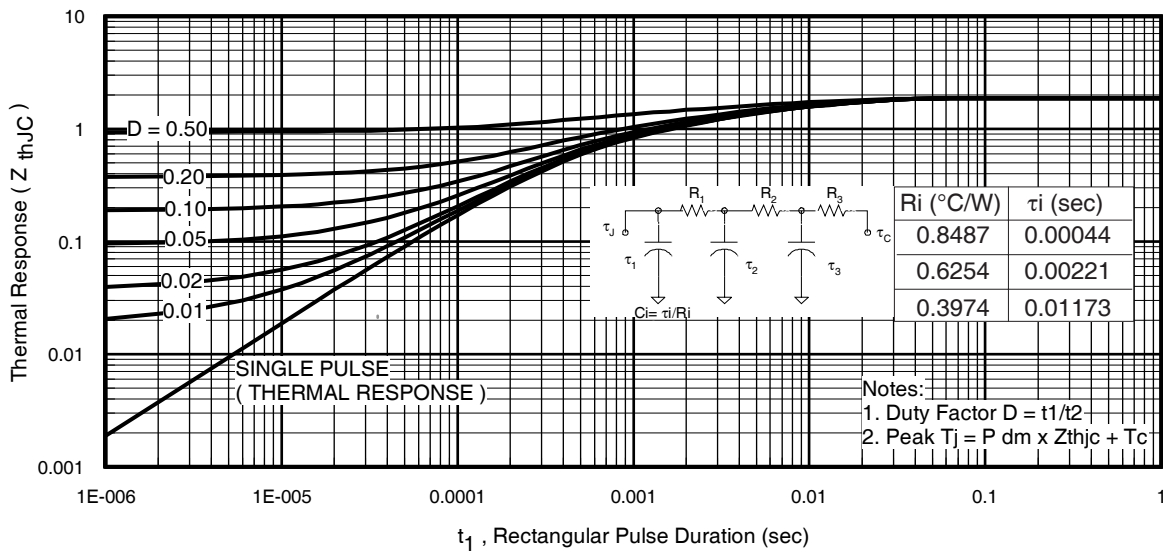
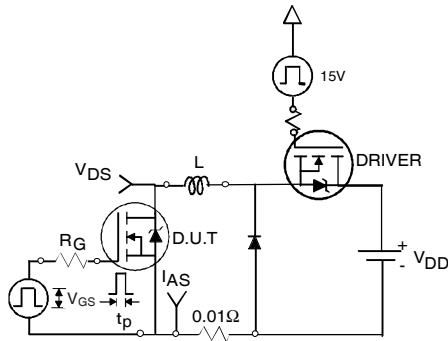

Fig 11. Maximum Effective Transient Thermal Impedance, Junction-to-Case
Fig 12a. Unclamped Inductive Test Circuit
- ① Repetitive rating; pulse width limited by max. junction temperature. (See fig. 11).
- ② Limited by T_{Jmax} , starting $T_J = 25^\circ\text{C}$, $L = 0.18mH$, $R_G = 25\Omega$, $I_{AS} = 31A$, $V_{GS} = 10V$. Part not recommended for use above this value.
- ③ $I_{SD} \leq 31A$, $di/dt \leq 840A/\mu s$, $V_{DD} \leq V_{(BR)DSS}$, $T_J \leq 175^\circ\text{C}$.
- ④ Pulse width $\leq 1.0ms$; duty cycle $\leq 2\%$.
- ⑤ $C_{oss\ eff.}$ is a fixed capacitance that gives the same charging time as C_{oss} while V_{DS} is rising from 0 to $80\% V_{DSS}$.
- ⑥ Limited by T_{Jmax} , see Fig.12a, 12b, 15, 16 for typical repetitive avalanche performance.
- ⑦ This value determined from sample failure population. 100% tested to this value in production.
- ⑧ This is applied to D²Pak, when mounted on 1" square PCB (FR-4 or G-10 Material). For recommended footprint and soldering techniques refer to application note #AN-994.
- ⑨ R_θ is rated at T_J of approximately 90°C .
3. Equation below based on circuit and waveforms shown in Figures 12a, 12b.
$Z_{thJC}(D, t_{av})$ = Transient thermal resistance, see figure 11)